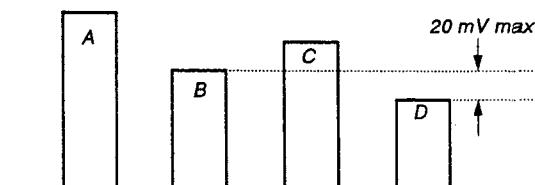

Fig. 25
- 4) Adjust [CHROMA SECAM] so that the tops of the waveform line up as in the diagram below. (Fig. 25)